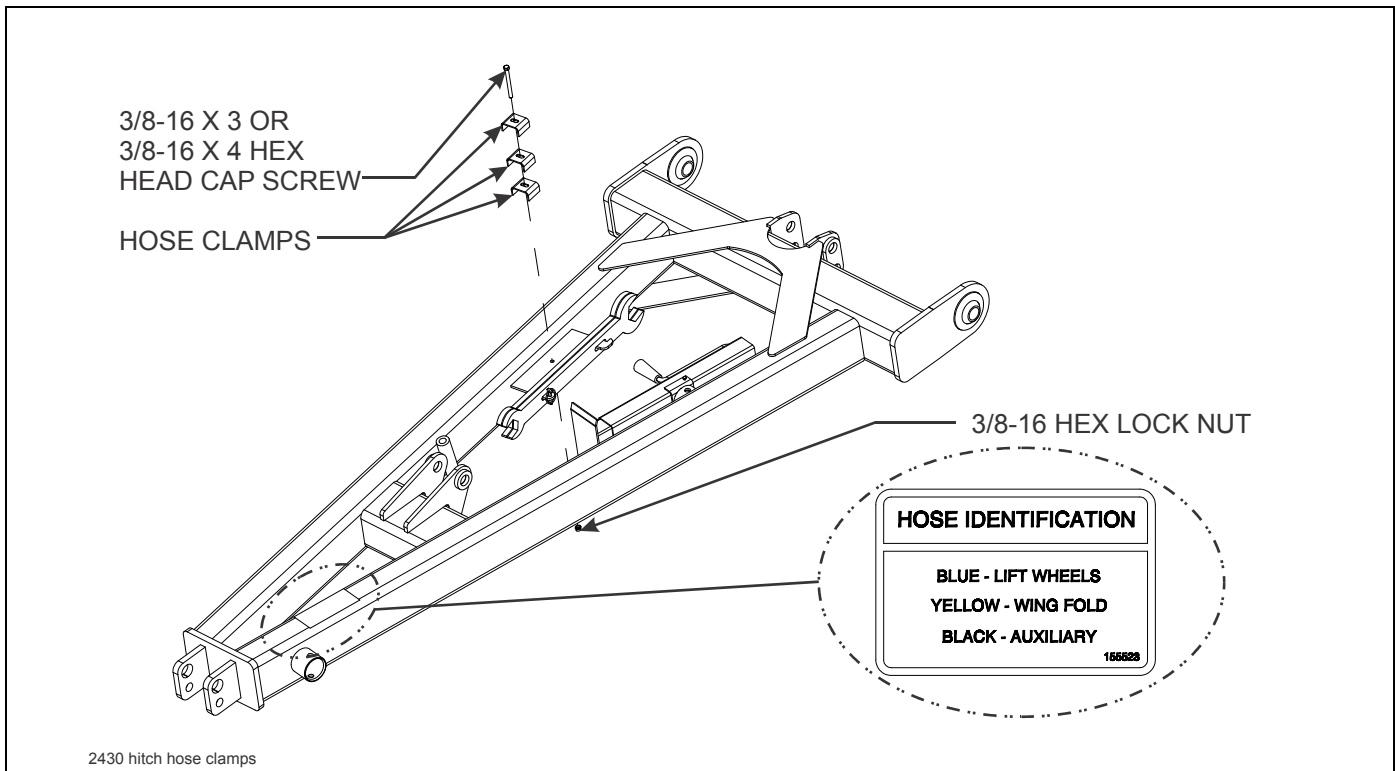

Figure 3-11: Hitch Hose Clamps and Color Designation
6. Hold each system of hoses in place using 3/8-16 x 3 hex head cap screw, hose clamps, and hex lock nut (**See Figure 3-11.**)
8. Install hose wraps around system hoses per hose identification decal near hose couplers, putting both hoses inside wrap (**See Figure 3-11.**)